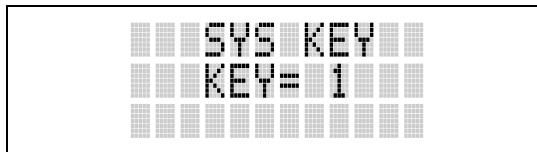
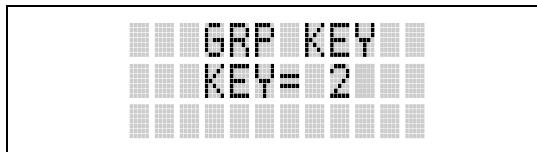

Figure 9-8: System Encryption Key Display
Figure 9-9: Group/Channel Encryption Key Display
3. Then use the **◀** or **▶** button to toggle between displaying the system key (Figure 9-8) or the group/channel key (Figure 9-9).